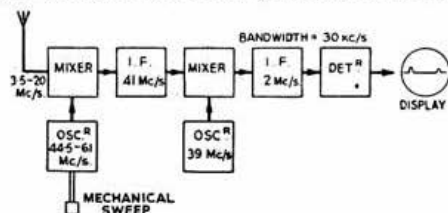

Fig. 3.
A receiver covering 3.5–20 Mc/s. has been described by E. C. H. Seaman (5). This receiver was only required to detect strong signals, and it was possible to dispense with any high frequency amplifiers ahead of the first mixer. The arrangement is shown in Fig. 3. As it is impossible to cover the range 3.5–20 Mc/s. without coil changing, it was necessary to first change the incoming signals to a higher frequency (41 Mc/s.). The first oscillator then covers 44.5–61 Mc/s. a range which can easily be achieved by means of a rotating condenser and a single fixed coil. The signals on 41 Mc/s. are then passed through what is essentially a normal 41 Mc/s. receiver, with an I.F. of 2 Mc/s., and are then detected and passed to the Y plates of the cathode ray tube. The horizontal deflecting voltage is produced by a waveform generator which receives a synchronising pulse once per revolution of the motor. For this receiver,  $F = 16.5$  Mc/s.,  $T = \frac{1}{25}$  sec., and these values give an optimum bandwidth of approximately 20 kc/s. This is, of course, the bandwidth required in the 2 Mc/s. I.F. amplifier. (The actual bandwidth used was 30 kc/s.) The resolution and signal-to-noise ratio will be rather poor, but this is an unavoidable consequence of the wide band which is covered. This example is given to show the useful technique of first changing to a high I.F. when a wide band has to be covered at a relatively low frequency.